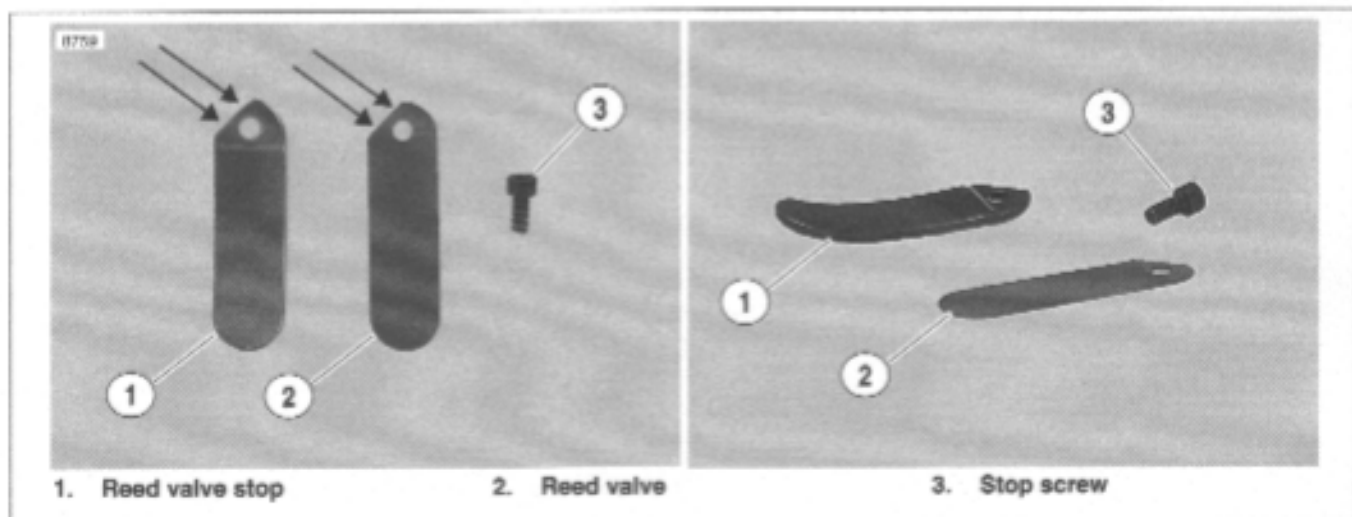

Figure 3-117. Reed Valve Stop and Reed Valve
See Figure 3-117. Whenever the gearcase cover is removed, the reed valve should always be inspected for cracks, chips and breakage. The reed valve (2) is what moves out with the downstroke and in with the upstroke of the pistons. The reed valve stop (1) limits the movement the reed valve (2). See 3.11 CRANKCASE BREATHING SYSTEM.
See Figure 3-117. When replacing the reed valve it is extremely important to ensure that both edges of the reed valve stop (1) and the reed valve (2) are properly aligned to prevent premature failure of the reed valve. When replacing the reed valve it is not necessary to